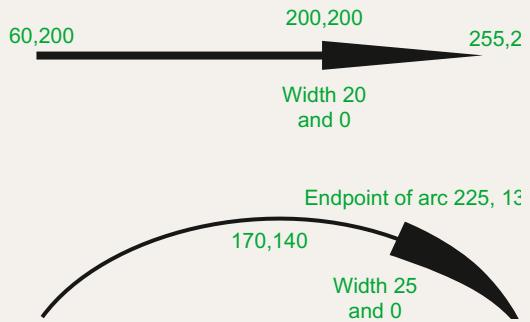

Fig. 2.36 Exercise 9
9. With the Polyline tool construct the arrows shown in Fig. 2.36.